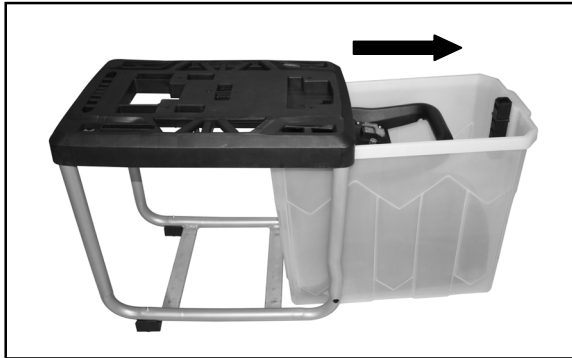

Fig. 4
2. Slide the collection box out of the base frame, then take out the motor unit (Fig. 4).